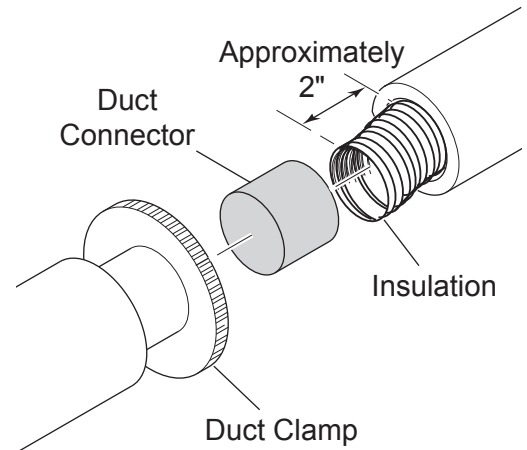

Figure 24 - Installing Duct Connector 403
7. If the duct is the insulated type, push the insulation back from one end of the duct approximately 2". See Figure 24.